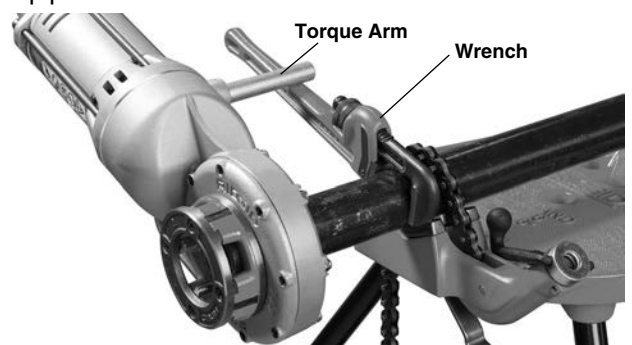

Figure 7 – Threading Using Pipe Wrench as a Support Arm
2. Place the RIDGID 12", 14" or 18" Heavy Duty Pipe Wrench approximately 7" (175 mm) from the end of the pipe (*see Figure 7*). Test to confirm the wrench is secure, and will not fall or move.